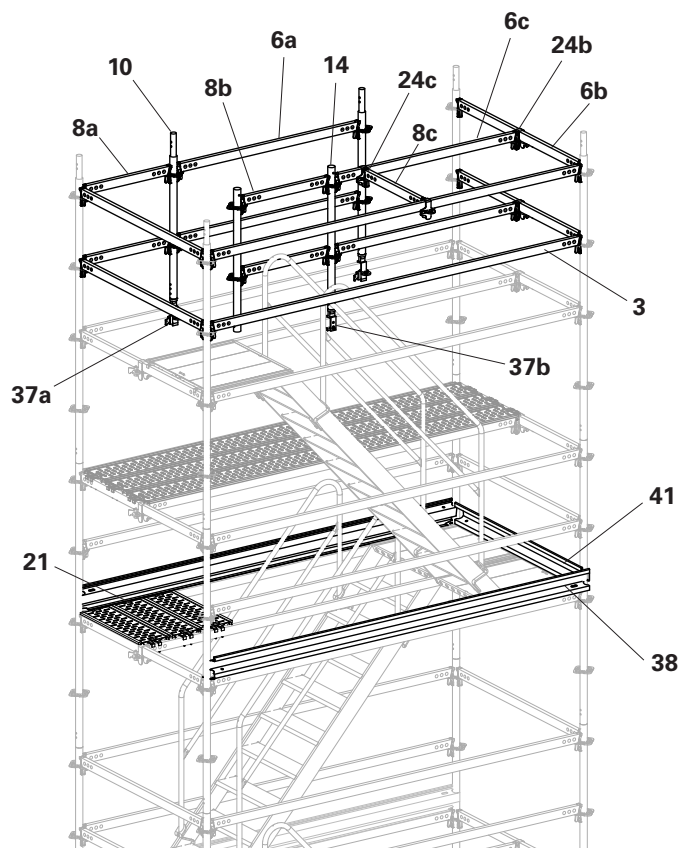

Fig. B5.04
9. Attach Horizontal Ledger UH-2 75 (**8c**) between the external Horizontal Ledger UH-2 300 (**3**) and internal Horizontal Ledger UH-2 150 (**6c**) with Ledger Bracket UHA Half (**24c**). (Fig. B5.04)